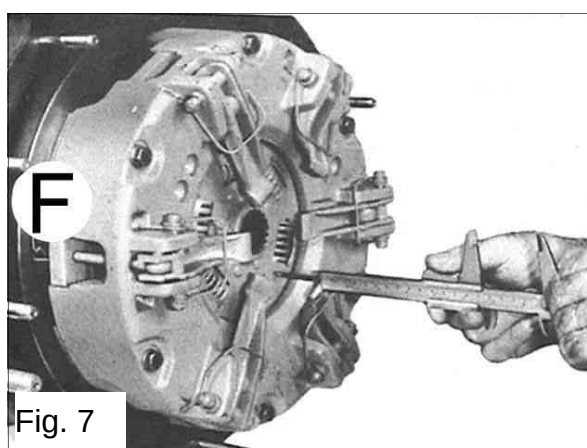

Fig. 7
- turn the nuts **F** (fig. 7) to obtain the prescribed distance;